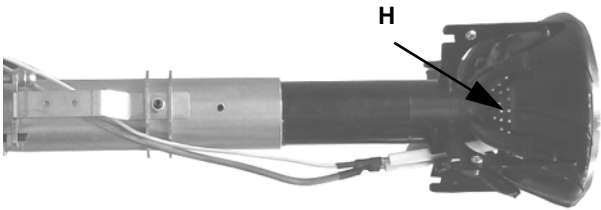

Fig. 64
- 4 Disconnect the connector **CR** (Fig. 64).
CAUTION: during the assembling phase, before tightening screws V1, V2, V3, V4, mount and tighten screws S1 and S2. To remove the head, the operator must pull it towards himself. Once the combustion head is removed, check that the air and gas holes are not obstructed (Fig. 64 - H). Clean the combustion head by a compressed air blow or, in case of scale, scrape it off by a scratchbrush.